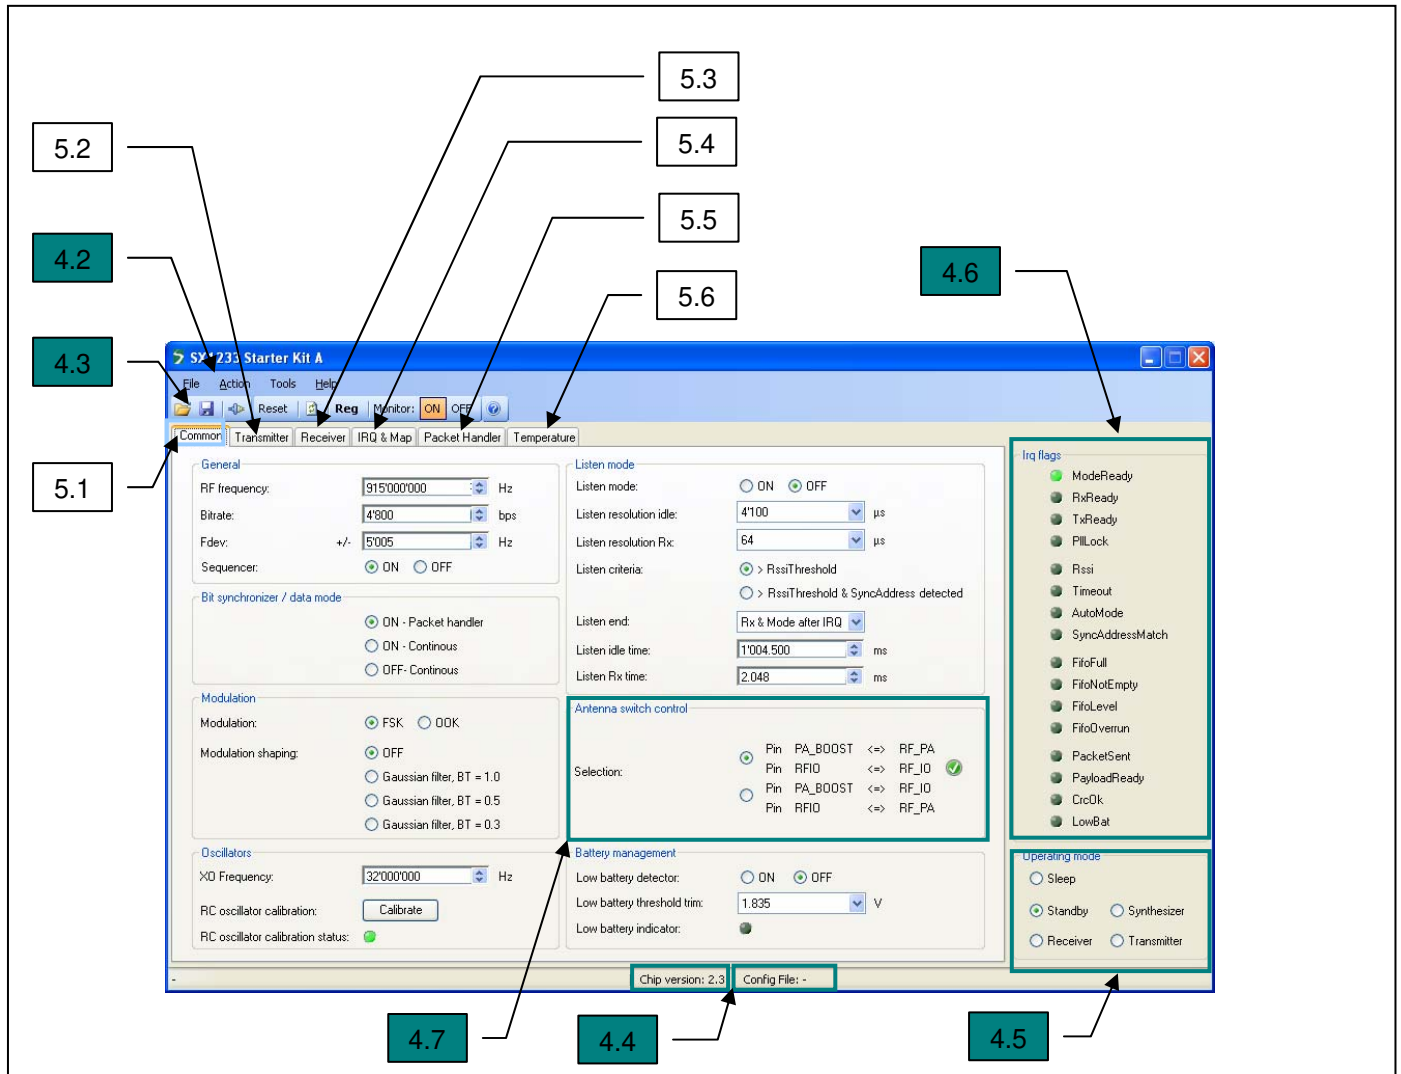

Figure 3: SX1233SKA GUI Overview
4. Once connected the SX1233SKA shows the default configuration of the SX1233 register settings upon power-up, as illustrated in Figure 3. If the EVK is not connected, the GUI screen is grayed out and an error message is displayed in the bottom left hand corner of the status bar.
Figure 3 illustrates the SX1233SKA graphical user interface (GUI). Each of the numbered captions corresponds to a proceeding chapter within the sections which corresponds to the description of that GUI feature.